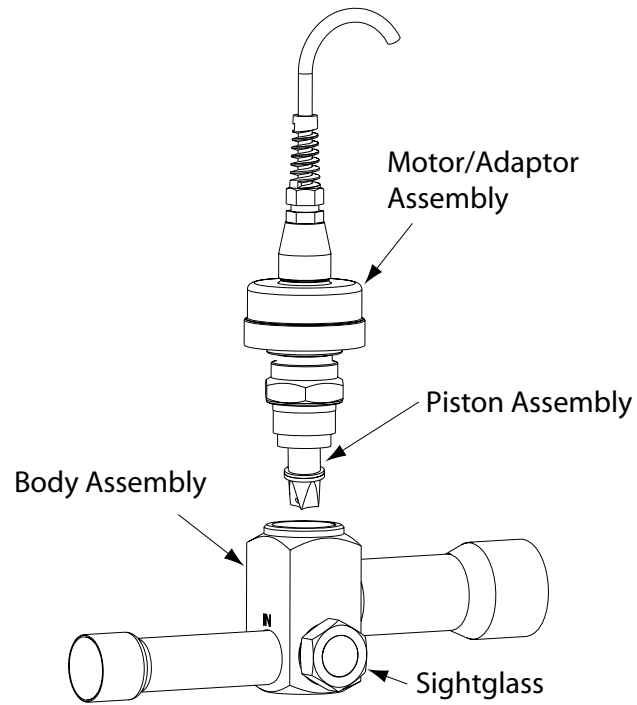

Figure 19 SEHI Electronic Expansion Valve Exploded View
3. Refer to the exploded view in Figure 19 while performing the remaining instructions.